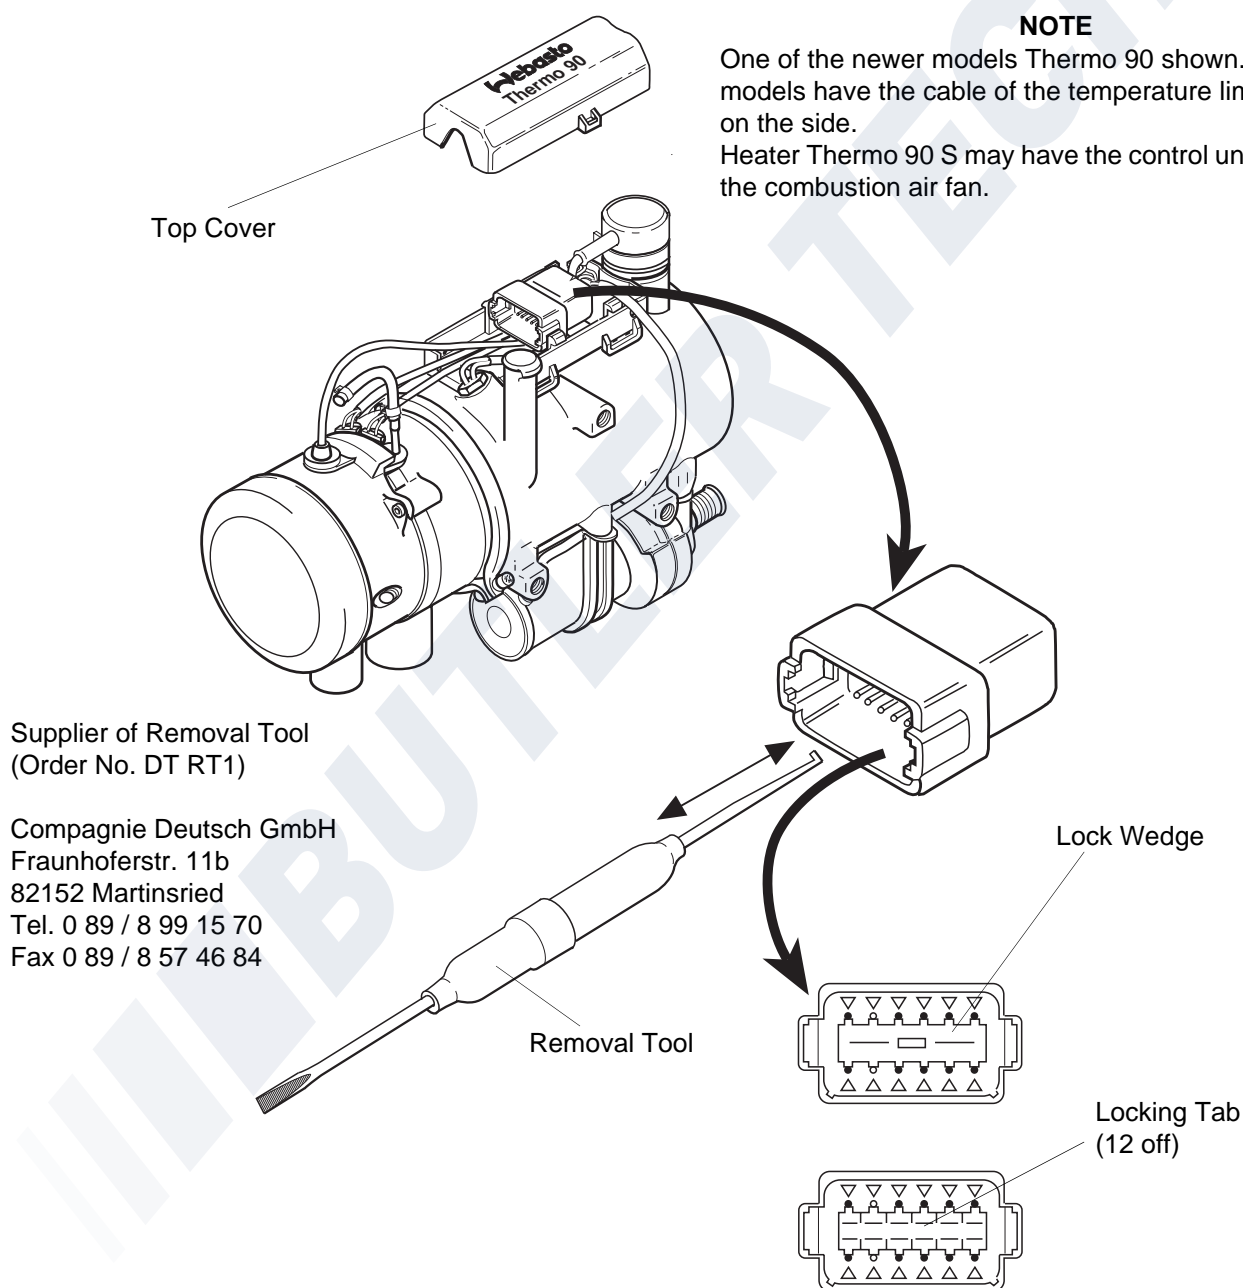

Fig. 901 Electrical Connections
9.2.1 Electrical Connections (Fig. 901)